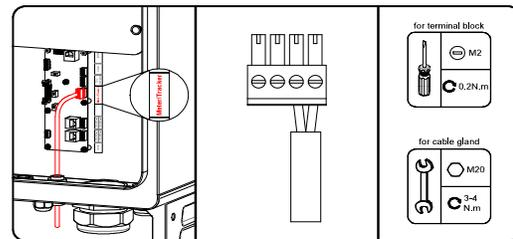

FIG 12 Communication board terminal wiring
- 6) Fix the stripped core wire conductor to the terminal block plug, as shown in FIG 12.